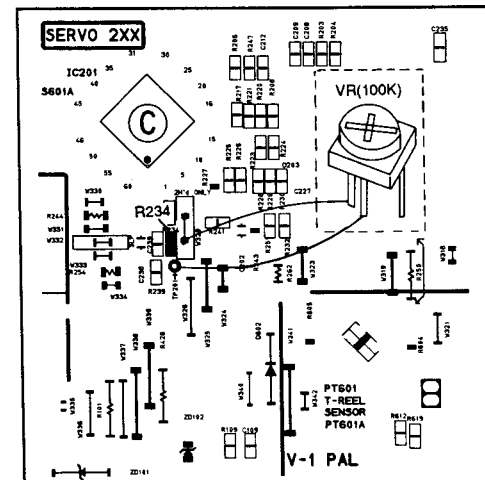

Fig. 2
1. Remove the R234(chip) (See Fig. 2).
2. Install VR(100K) to the solder land of W329 & TP201 (See Fig. 2).
- 1) If a chip resistor is not available, install on axial resistor in place of W329 & TP201 (See Fig. 2). At this time R234 chip resistor should be removed.